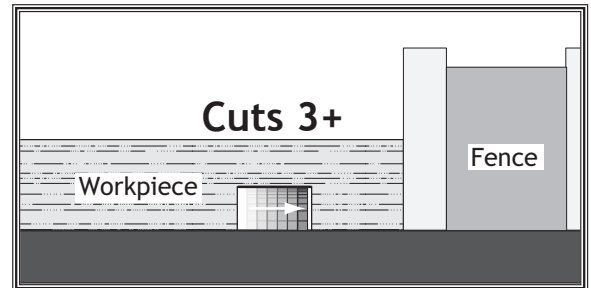

Figure 63. Additional single-blade dado cuts.
8. Make additional cuts (see Figure 63) in center of dado to clear out necessary material. Dado is complete when channel is completely cleared out.